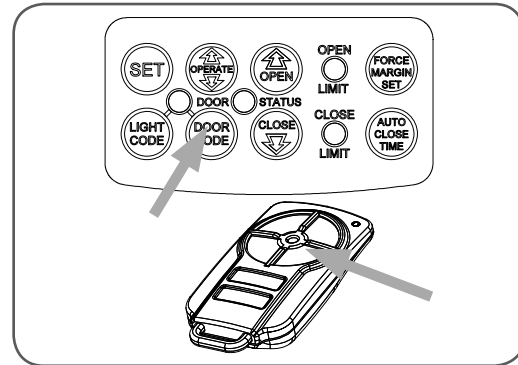

fig 20
- Press and hold the DOOR CODE button (**Fig. 20**).
- Press one of the four buttons on the transmitter for two (2) seconds, pause for two (2) seconds, then press the same button again for two (2) seconds.